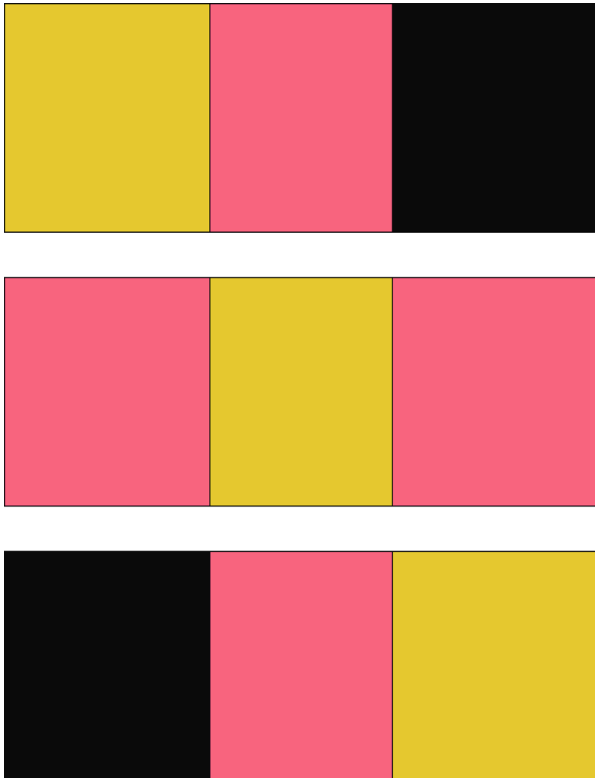

Figure 19
21. Arrange 9-Patch Strip Components assembled on pages 6 and 7 as shown. Each Block requires two Fabric D/E/F strip components for the top and bottom rows and one Fabric E/D/E strip for the center row. (Figure 19)